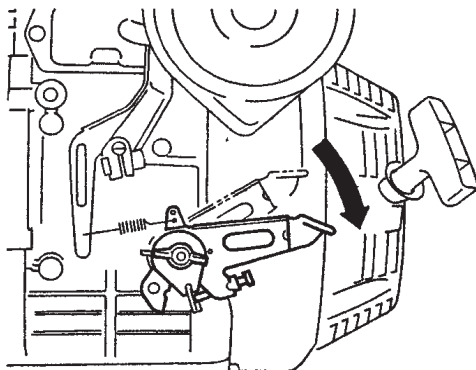

Figure 13. Throttle Lever (Run)
9. To begin pumping, place the throttle lever (Figure 13) in the "RUN" position.